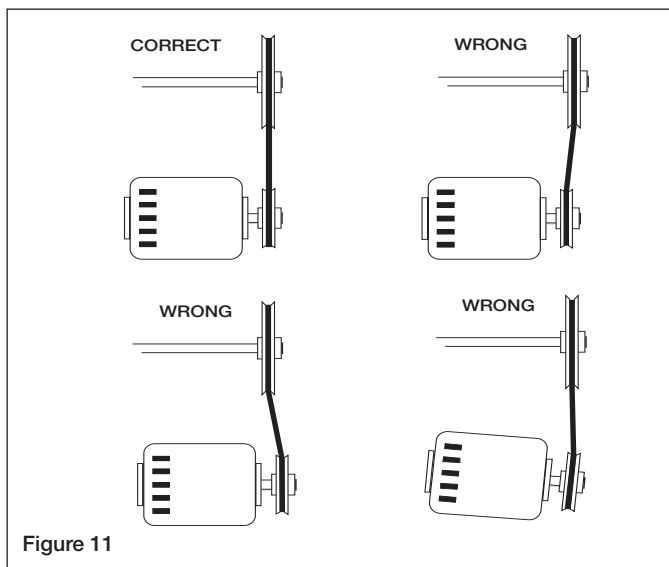

Figure 11
- 4. For BSQ Fans:** If adjustments are made, it is very important to check the pulleys for proper alignment. Misaligned pulleys lead to excessive belt wear, vibration, noise, and power loss. (see Figure 11 on next page).